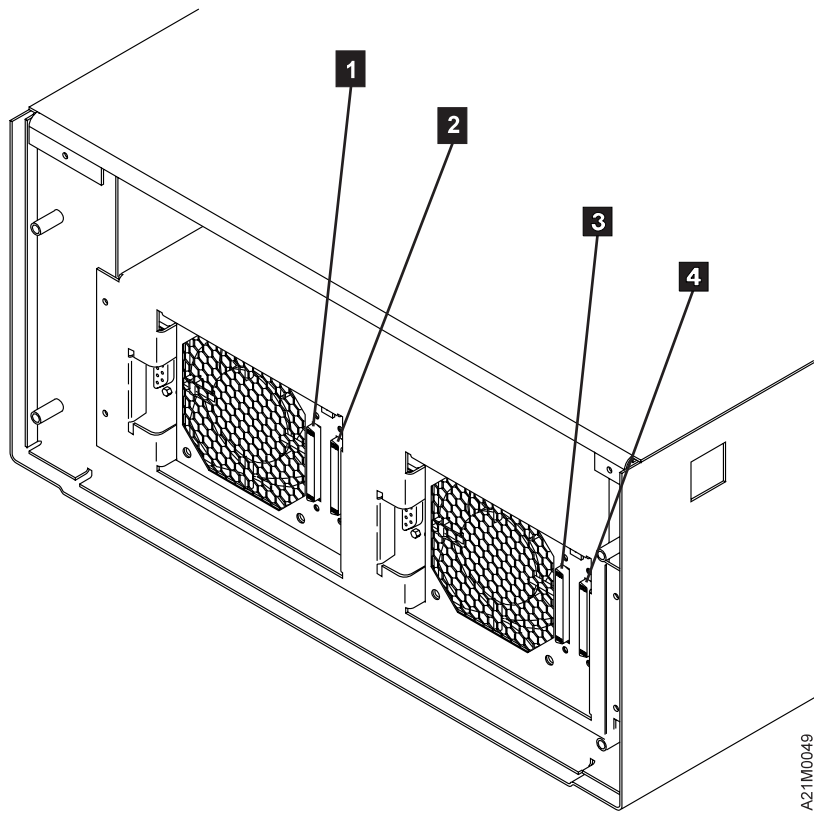

Figure 26. Rear View of Model B02 or B12
3. Ensure the SCSI Bus Jumper (P/N 49G6456) is connected to the rightmost SCSI connector on the back of tape drive 1, and to the leftmost SCSI connector on the back of tape drive 2. (See items **2** and **3** in Figure 26 on page 62).
4. If the Magstar MP is the first, or only, device in line connected to the initiator, connect the SCSI cable coming from the initiator to the leftmost SCSI connector on the back of the library. (See item **1** in Figure 26 on page 62).
5. If the Magstar MP is **not** the first device on the SCSI bus, connect the SCSI interface cable coming from the next closest device to the leftmost SCSI connector on the back of the library. (See item **1** in Figure 26 on page 62).
6. If this is the last device on the SCSI bus, locate the SCSI interface terminator (P/N 61G8324) and attach it to the rightmost SCSI interface connector on the back of the library. (See item **4** in Figure 26 on page 62). If the library is **not** the last device on the SCSI bus, locate the SCSI interface cable to the next device, and connect it to the unused, rightmost SCSI interface connector on the back of the library. (See item **4** in Figure 26 on page 62).
8. If one is installed, remove the SCSI Bus Jumper (P/N 49G6456) that connects the SCSI connector on the back of tape drive 1 to the SCSI connector on the back of tape drive 2. (See items **2** and **3** in Figure 26 on page 62).
9. If tape drive 1 in the Magstar MP is the first, or only, device in line connected to the initiator, connect the SCSI cable coming from the initiator to the leftmost SCSI connector on the back of tape drive 1. (See item **1** in Figure 26 on page 62).
10. If tape drive 1 is **not** the first device on the SCSI bus, connect the SCSI interface cable coming from the next closest device to the leftmost SCSI connector on the back of tape drive 1. (See item **1** in Figure 26 on page 62).
11. If tape drive 1 is the last device on the SCSI bus, locate the SCSI interface terminator (P/N 61G8324) and attach it to the rightmost SCSI interface connector on the back of tape drive 1. (See item **2** in Figure 26 on page 62).
12. If tape drive 1 is **not** the last device on the SCSI bus, locate the SCSI interface cable to the next device, and connect it to the unused, rightmost SCSI interface connector on the back of tape drive 1. (See item **2** in Figure 26 on page 62).
13. If tape drive 2 in the Magstar MP is the first, or only, device in line connected to the initiator, connect the SCSI cable coming from the initiator to the leftmost SCSI connector on the back of tape drive 2. (See item **3** in Figure 26 on page 62).
14. If tape drive 2 is **not** the first device on the SCSI bus, connect the SCSI interface cable coming from the next closest device to the leftmost SCSI connector on the back of tape drive 2. (See item **3** in Figure 26 on page 62).
15. If tape drive 2 is the last device on the SCSI bus, locate the SCSI interface terminator (P/N 61G8324) and attach it to the rightmost SCSI interface connector on the back of tape drive 2. (See item **4** in Figure 26 on page 62).
16. If tape drive 2 is **not** the last device on the SCSI bus, locate the SCSI interface cable to the next device, and connect it to the unused, rightmost SCSI interface connector on the back of tape drive 2. (See item **4** in Figure 26 on page 62).
17. When the Magstar MP is correctly connected, all four SCSI connectors on back of the Magstar MP (see **1**, **2**, **3**, and **4** in Figure 26 on page 62) must have either a SCSI cable or a SCSI terminator attached.